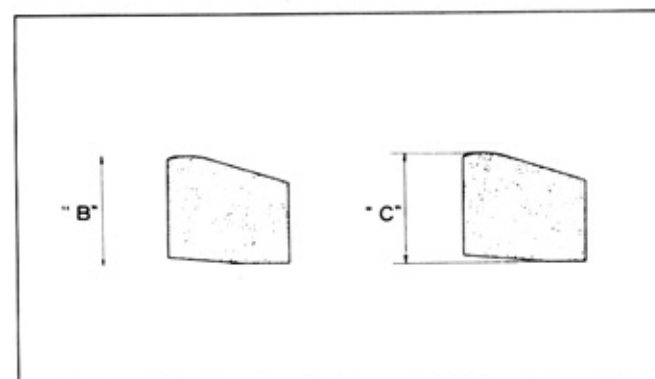

Fig. 8-28 Carbon Shoe Inspection
- Inspect the carbon shoes for damage and wear. Check the carbon shoe heights (Fig. 8-28). If "B" is less than 0.180" and "C" less than 0.159", replace with shoe kit.